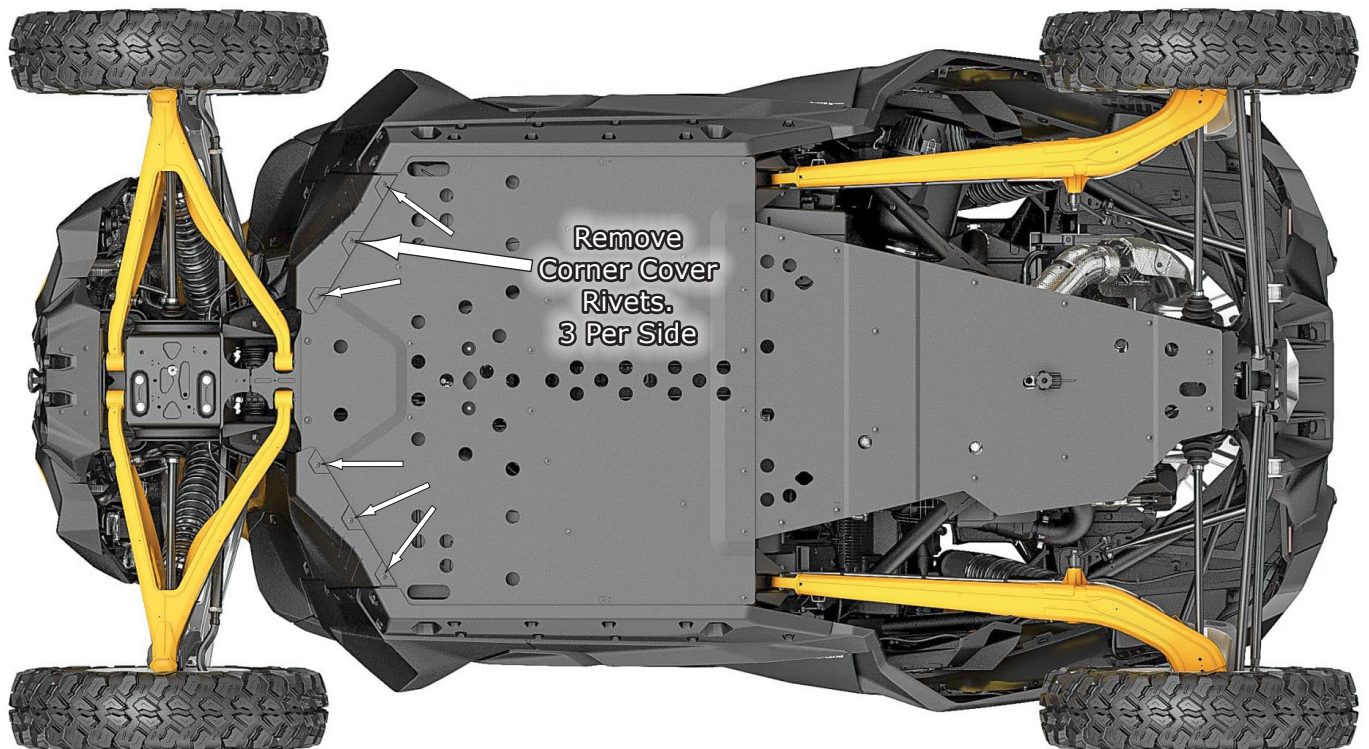

Fig.1
1. The first thing you need to do is remove the Factory skid plate from your machine. To do this, you will need to drill out the rivets holding the skid plate on. We have provided a **5.5mm Drill Bit** for you to drill these out with. Drill the heads off the rivets and drive out the remaining pins. Some of these rivet hole locations will be pre-drilled out for the **1/4-20 Self-Tapping** or the **M6 Bolts**. Below shows the factory plates you will be removing. Yours may look a little different, but you will remove the rivets then remove all the plates ready for your new installation. See **Fig.1**.
2. After the factory skid plates are off, you will start installing your new skid plates. For the easiest installation, install the plates in the order that we show you to install them here. You will start with the **Front Plate**, then the middle areas, then the back. Make sure the factory **Corner Cover Rivets** are removed. **Fig.1** shows these.